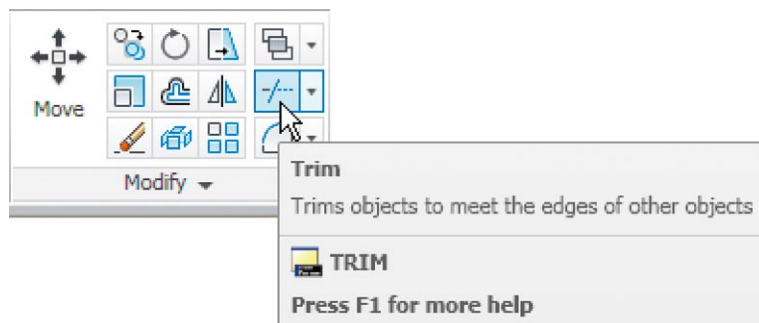

Fig. 5.30 The Trim tool icon from the Home/Modify panel
2. Call **Trim** – either *left-click* on its tool icon in the **Home/Modify** panel (Fig. 5.30), *pick Trim* from the **Modify** drop-down menu or *enter tr* or *trim* at the command line, which then shows: